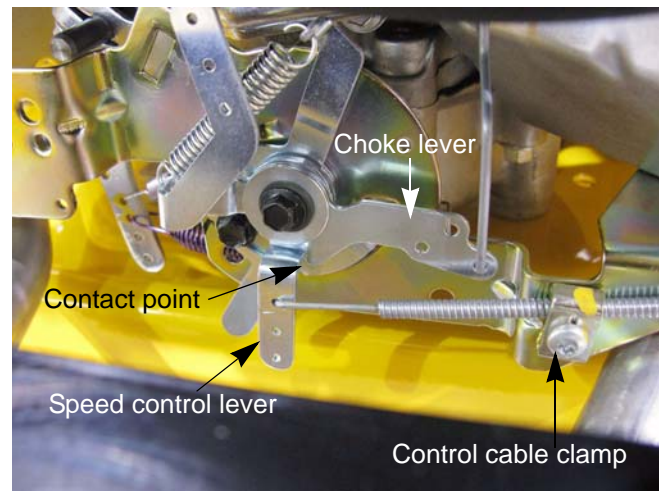

Figure 2.17
2. Loosen the clamp that holds the control cable jacket in position. See Figure 2.17.